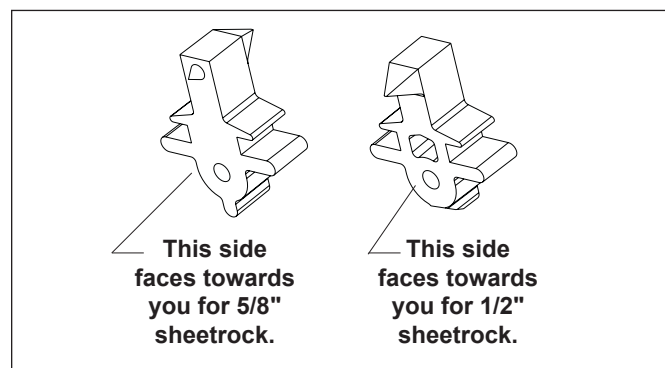

Figure 30. Cleat Orientation
5. Depending on what size sheet rock (5/8" or 1/2"), determine which side of the cleat is to be facing you (see Figure 30).